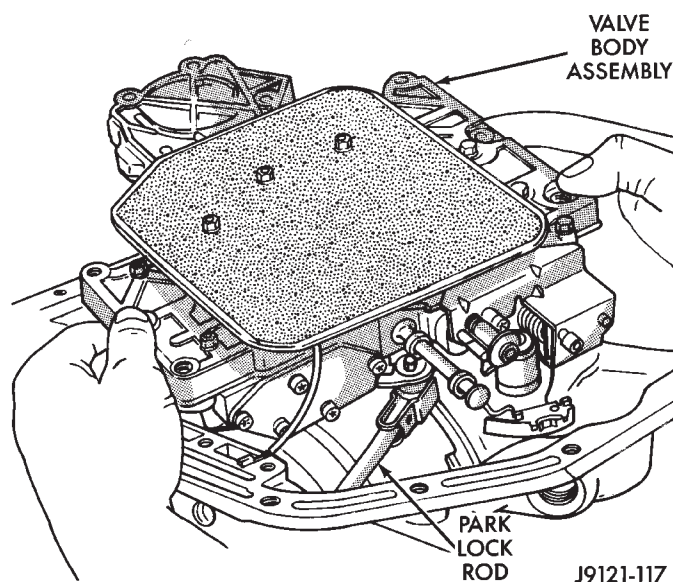

Fig. 7 Valve Body Removal/Installation
(11) Lift valve body upward, guide park rod out of case opening and remove valve body (Fig. 7).